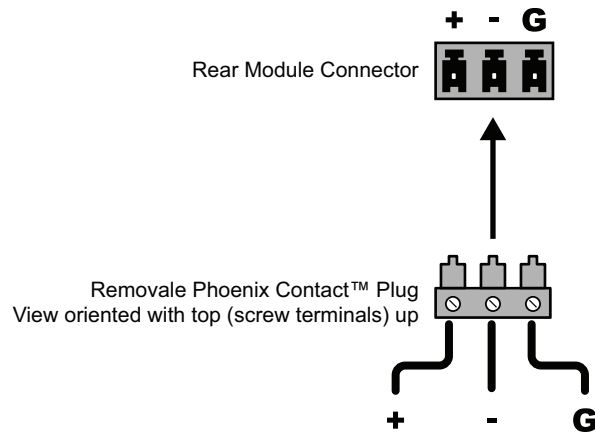

Figure 2.4 Connector Wiring for Rear Module Input Sockets
1. Insert an analog audio wire to the designated polarity slots on the connector of the rear module. (**Figure 2.4**)